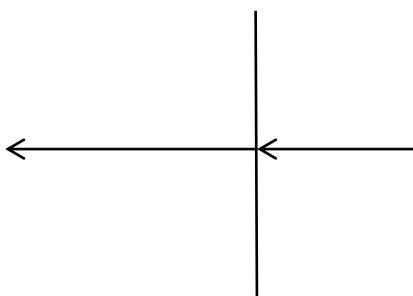
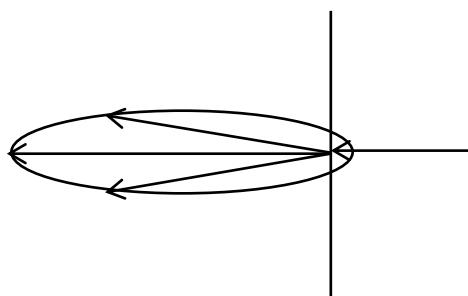
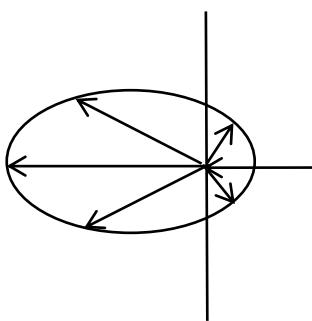

Figure 1
Figure 2
Figure 3
In various applications of liquid crystal (LC) films, people always want the lowest haze at clear state and the highest opacity or scattering at opaque state. These requirements automatically form an industrial guideline for evaluating quality of LC films. It is easy to understand a haze at clear state to be as transparent as possible. But there may be many questions for opaque state. What is characteristic of scattering? How to evaluate scattering? What kind of standard can be used? To answer these questions, it is better to first review scattering properties in optical physics. Figure 1 to Figure 4 illustrate different levels of scattering. In these figures, vertical lines represent scattering surfaces, such as testing samples, and arrows in right side represent incident lights.
Figure 1 shows a situation, in which incident light passes through a clear sample, such as glass or film, without scattering. Figure 2 shows a situation, in which a sample just has a little scattering like a case of beginning stage of grinding a clear glass to form a frosted glass. An oval shape represents intensity of scattered light in all directions. Figure 3 shows a low level of scattering like a frosted glass. First generation (1G) and second generation (2G) LC films are close to this situation. Such scattering has following characteristics. (1) Intensities of scattered lights in all directions form an oval shape, so called oval scattering. This oval shape also represents a distribution of brightness. (2) Intensities of back scattering (back to incident direction) are much weaker than transmitted intensities. (3) Transmitted energy still remains a major direction same as incident direction. It is the characteristics that seriously affect quality of projection. Figure 4 shows a high level of scattering, in which scattering lights have same intensities in all directions and form a sphere, so called spherical scattering. Scienstry's 3G Switchable Film™ has such scattering. Spherical scattering equally distributes scattered lights in both sides of scattering surface and does not have a major direction. It is symmetrical and uniform in all directions. Such optical properties are very good for projection and have a lot of advantages in various applications.
By reviewing these figures from Figure 1 to Figure 5, we may understand that an oval shape indicates scattering capability. The flatter an oval shape, the weaker scattering capability is, corresponding to a weak opacity or hidden power too. When scattering gets stronger, oval shape becomes more round. Since view blocking capability of liquid crystal film is totally depended on scattering levels as we experienced, scattering capability is naturally used to evaluate quality of LC film. A non-uniform scattering never offers a good result for projection. According to law of conservation of energy, the better scattering a sample has, the weaker transmitted light along with incident direction should be. When all directions of lights have maximum energy, only result is that light intensity along the incident direction is equal to intensities of other directions; therefore, a spherical scattering is formed. Since front projection mainly utilizes back scattering capability, picture quality is depended on back scattering capability. Spherical scattering brings more light back to incident side than oval scattering, so spherical scattering has a great brightness. That is why older films with serious oval effect are not suitable for projection, definitely not for front projection or short throw front projection.